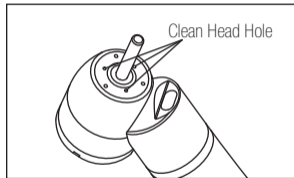

Fig. 5
- 1) Remove dirt and debris from the Clean Head Holes with the cleaning wire and brush (supplied as an accessory for the handpiece). (Fig. 5)